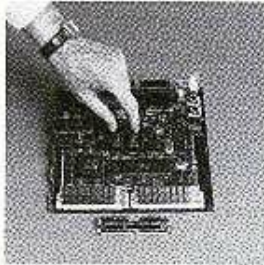

Figure 3-5
- a. Lay the main logic board on a flat surface and orient it to the position shown in Figure 3-5.
- b. Locate the Hi and Lo ROM chips on the main logic board. See Figure 3-5. The chips are identified on the board by "ROM Hi" and "ROM Lo."
- c. Place the ROM SIMM card in front of the main logic board and orient it to the position shown in Figure 3-5. Be sure the edge of the card with the silver edge connector strip is facing toward you and away from the main logic board.